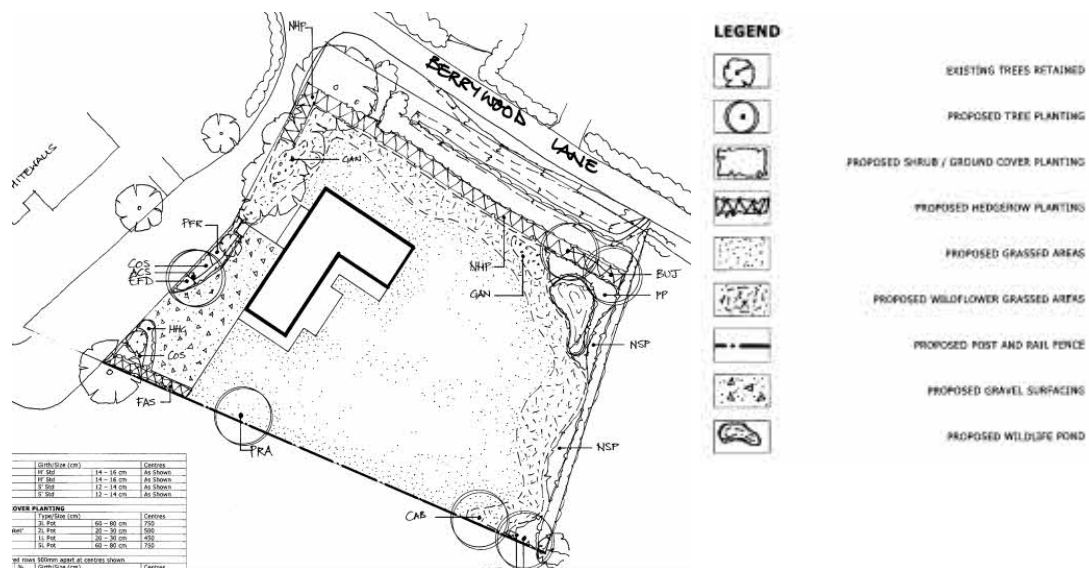

Figure 1.0. Extract of Indicative Landscape Proposals Plan.
- 1.3 David Williams Landscape Consultancy has produced a Preliminary Landscape Appraisal 12th December 2019 and as part of this appraisal produced an Indicative Landscape Proposals Plan Drawing No. 0395 / L2, which is shown in Figure 1.0 below, but can be found in full in Appendix A.